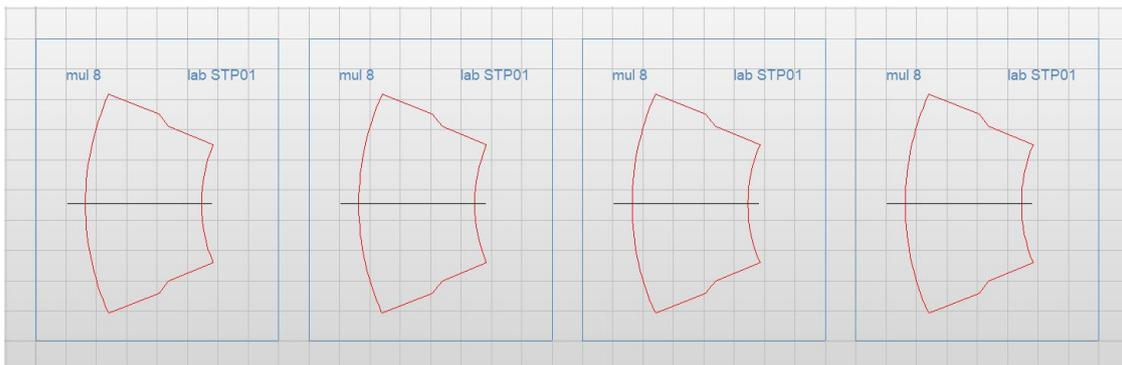

Figure 71
- e. The copied objects appear a second time in your Drawing Area. Now move these copies and position them next to the original objects (Figure 71).
- f. Repeat the last two steps two more times to get all cuts for all four compound layers (Figure 71).